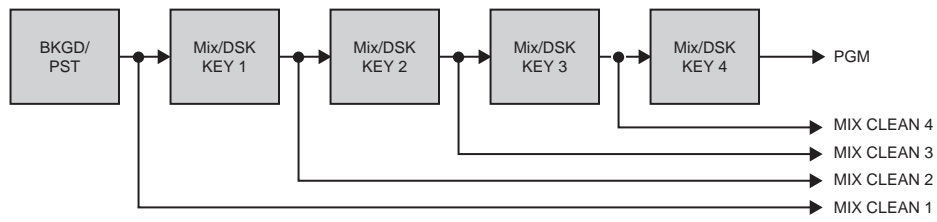

Figure 8.4 Clean Feed for Mix/DSK (Mix4K Shown)
- The Clean Feeds are locked to before each key (**Figure 8.4**).